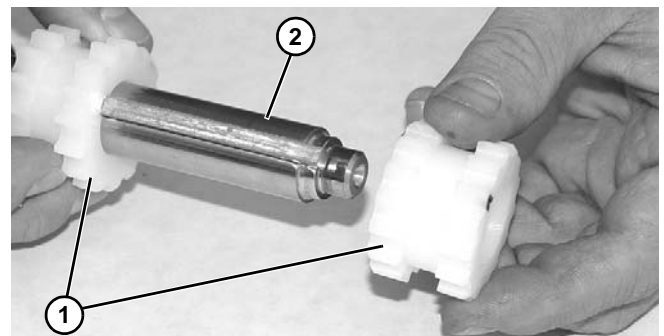

Figure 41
4. Slide free moving sprocket(s) (Figure 41, item 1) off the end of pulley (Figure 41, item 2).